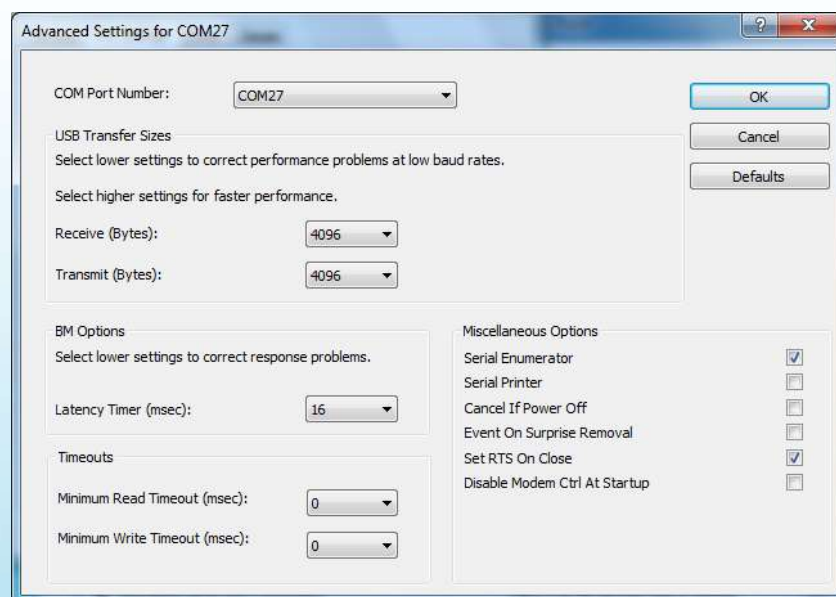

Figure 3-7 Advanced Port Settings: Select Set RTS On Close
- V. Double-click on **each** of these *USB Serial Port* entries and, under the *Port Settings* tab, click on *Advanced....* In the *Miscellaneous Options* at the bottom right-hand side of the window, ensure that *Set RTS On Close* is ticked, as shown in Figure 3-7.